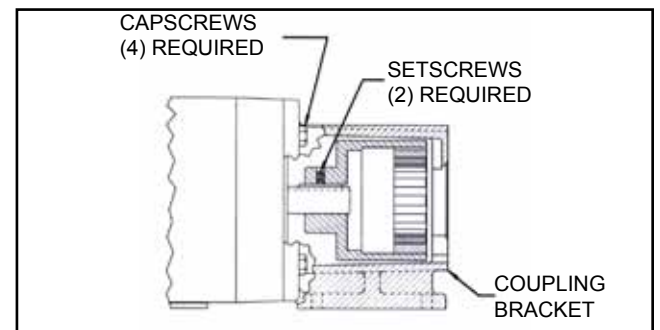

FIGURE 14
5. You should be able to visually inspect the outer magnets from the end of the bracket. If removal is necessary, start by removing the (4) capscrews (See Figure 14) and